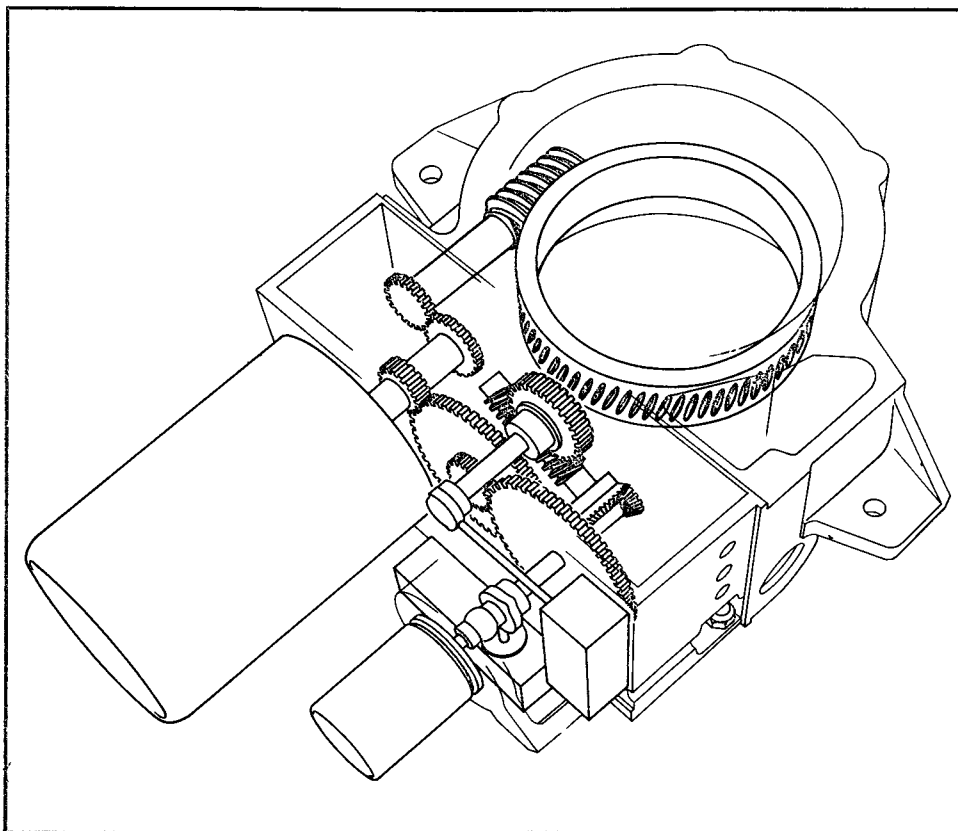

Figure 4-21. Antenna Drive TG-23/ALA-6, Gear Schematic Diagram
- c. Mechanical system (Figure 4-21).
(Figure 4-21.)